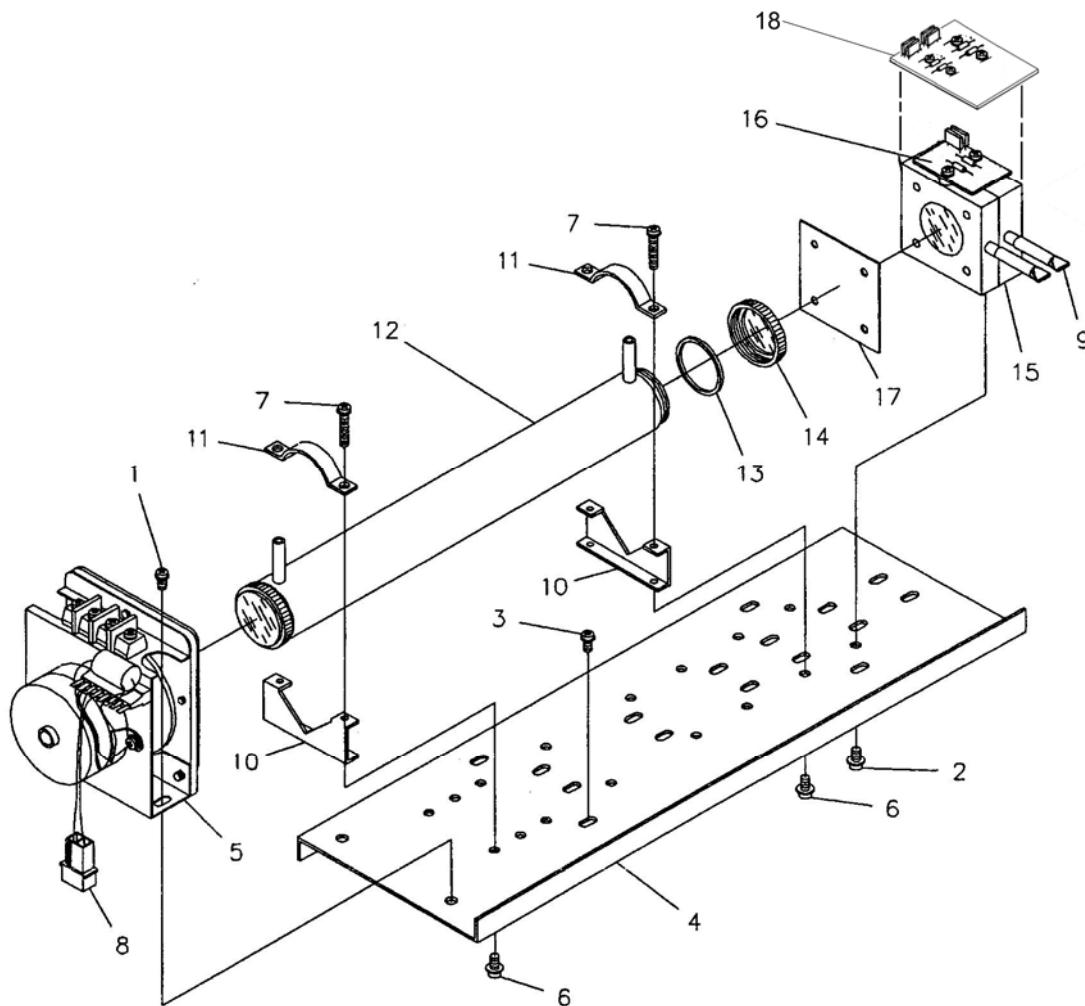

Figure 10-1 Optical Bench with Pipe Sample Cell
| Pipe Cell (Cell length: 64 mm, 125 mm, or 250 mm). | Figure 10-1 This figure illustrates the pipe cell. | 10.3.1 describes the disassembly cleaning and reassembly |
(Figure 10-1)
- 5) After loosening (do not remove) the two screws (No. 1 in Figure 10-1) which are used for securing the infrared light source unit (No. 5 in Figure 10-1) to the base plate, shift the infrared light source away from the pipe cell (No. 12 in Figure 10-1) to form a gap.
- 6) After removing the pipe cell retainer screws (No. 7 in Figure 10-1), remove the retaining clamps (No. 11 in Figure 10-1).
- 8) At this time, inspect the O-Ring (No. 13 in Figure 10-1) for signs of deterioration. Replace if necessary.
- 10) The pipe cells contain a reflective metal foil liner (not shown in Figure 10-1) to enhance the light energy through put in the cell. Normally it is not necessary to remove the liner for cleaning; however, the liner should be removed if the cell is subjected to grossly excessive moisture. If necessary, clean both sides of the liner and the inside of the pipe cell. If the liner has been subjected to a corrosive substance, it should be replaced. In either case, ensure that the small gas holes in the liner are aligned with the gas fittings at both ends of the pipe cell before reassembling the windows.